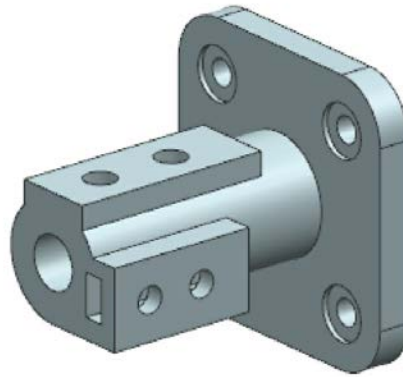
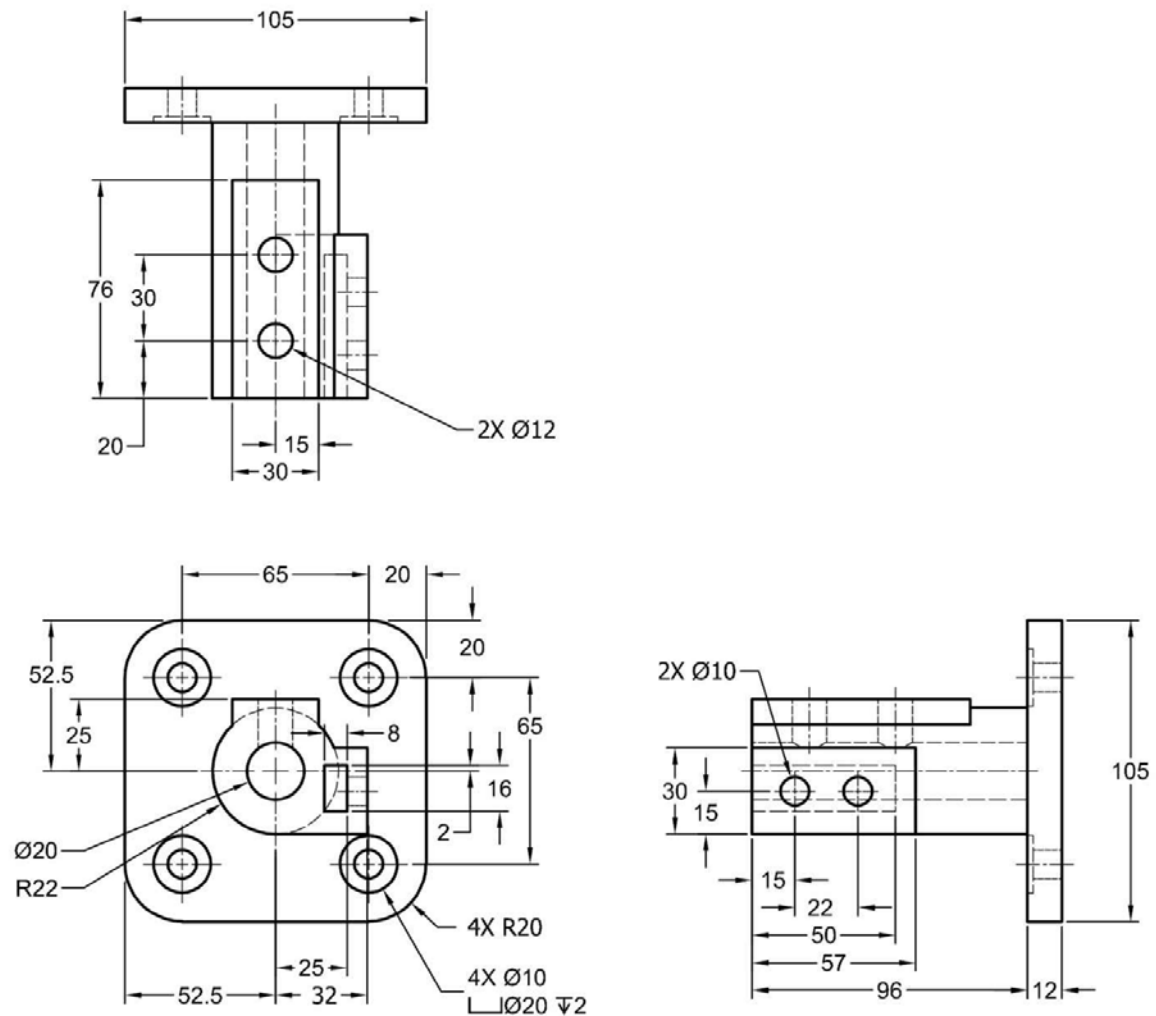
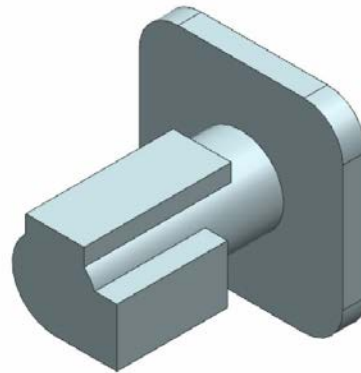

Figure 6-93 Model for Tutorial 2
Figure 6-94 The drawing views and the dimensions of the model for Tutorial 2
Figure 6-100 The model after creating the fourth feature
In this tutorial, you will create the model shown in Figure 6-93. The drawing views and the dimensions are shown in Figure 6-94. After creating the model, save it with the name *c06tut2.prt* at the following location: *\NX\c06*.
2. Draw the rectangular sketch for the third feature by using the dimensions given in Figure 6-94.
8. Similarly, create the fourth extruded feature by using the dimensions given in Figure 6-94. The model after creating the fourth feature is shown in Figure 6-100.
2. Draw the sketch of this feature by using the dimensions given in Figure 6-94. Choose the **Finish Sketch** tool from the **Direct Sketch** group to exit the sketching environment.
After creating holes on the third feature, create holes on the fourth feature of the model by using the **Hole** dialog box. These holes will be created on the right face of the fourth feature. For dimensions of the holes, refer to Figure 6-94. The model after creating the holes in the fourth feature is shown in Figure 6-106.